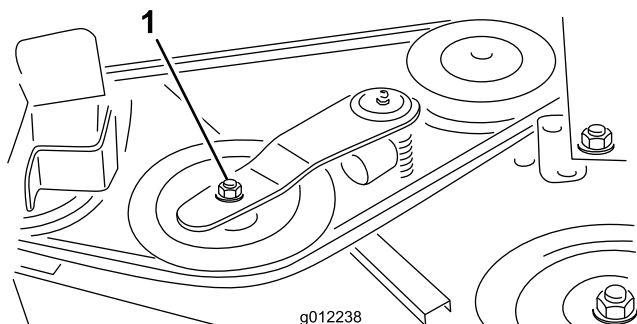
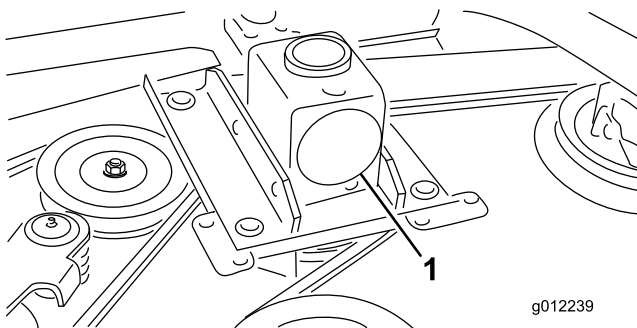

Figure 30
Figure 31
2. Using a torque wrench or similar tool, move the idler pulley (Figure 30) away from the drive belt to release the belt tension and allow the belt to be slipped off the gearbox pulley (Figure 31).